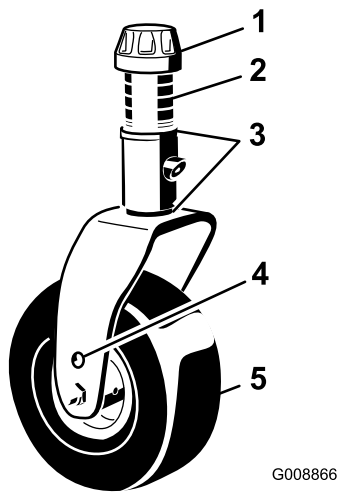

Figure 19
4. Remove the tensioning cap from the spindle shaft and slide the spindle out of the caster arm (Figure 19).